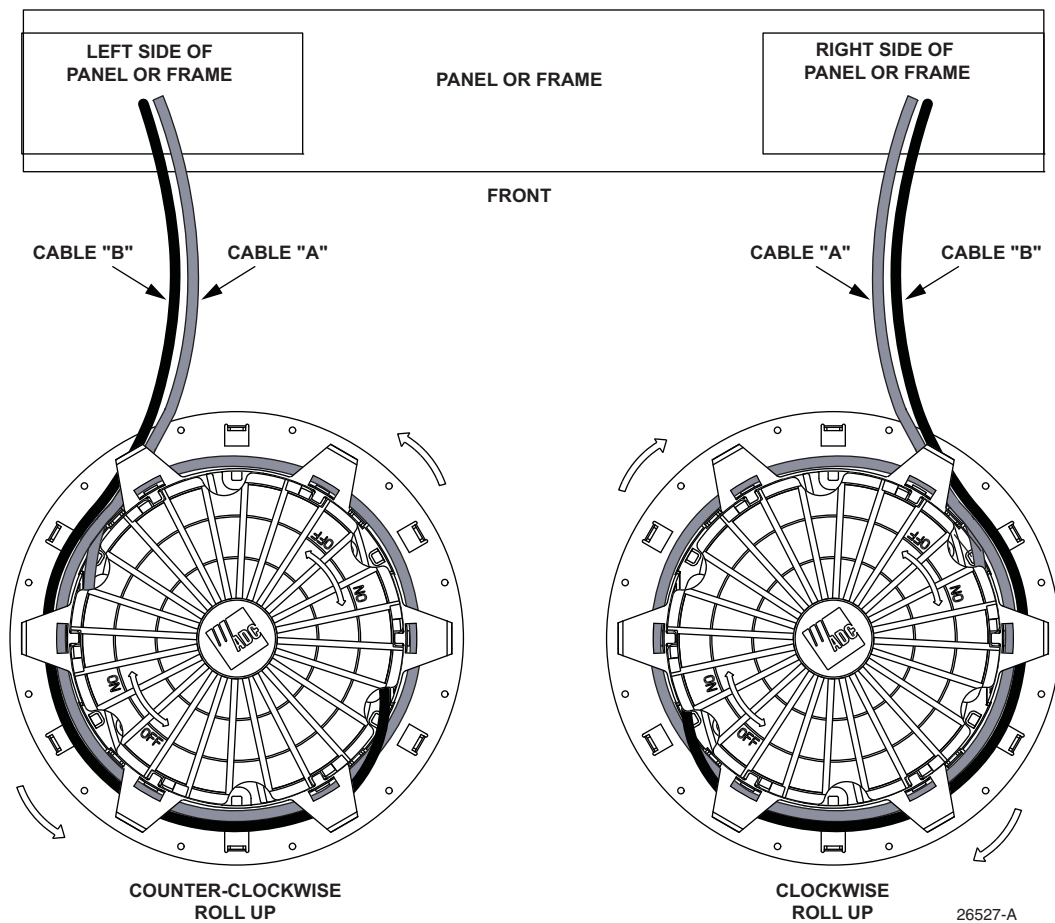
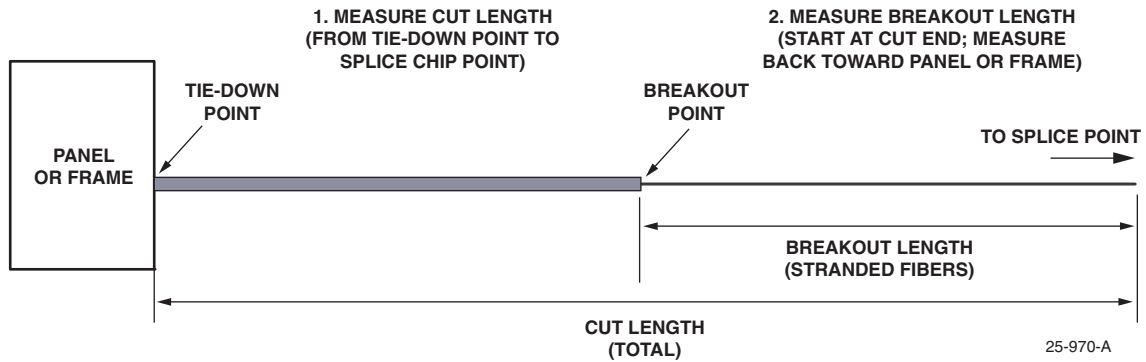

Figure 1. Counter-Clockwise and Clockwise Roll-Up Directions
Figure 2. Fiber Lengths
Cables can be rolled up in either a counter-clockwise direction or a clockwise direction, depending on which side of the panel (or frame) the cables originate. See Figure 1. When tying the cable down on the left side of the panel or frame (as viewed from the front), use a counter-clockwise roll-up direction. When tying the cable down on the right side of the panel or frame (as viewed from the front), use a clockwise roll-up direction.
There are two lengths to determine when preparing the cable(s) routed to the round splice tray: the overall length (which will be referred to as the cut length) and the breakout length. See Figure 2.
1. Starting at the tie down location on the panel or frame, measure and mark the cut length. See Figure 1. (Make sure cable(s) “A” and cable(s) “B” cut lengths are identical.)
3. Starting at the cut end of the cable measure backwards (right-to-left, see Figure 2) and mark the breakout length (refer to Figure 1). Remove outer jacket to expose stranded/ribbon fibers. (Remove any moisture blocking compound from OSP fibers.)